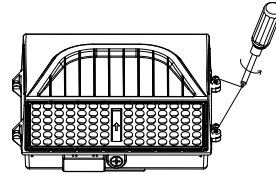

Figure 22
2. Use a Phillips-head screwdriver to loosen the two (2) screws on the right side of the fixture. (see Fig. 22)